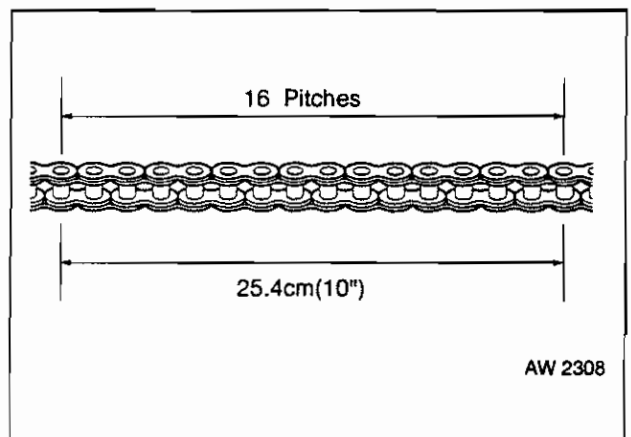

Fig 11.10 Chain Wear Measurement
- b. The length of 16 pitches of a new chain is 25.4 cm (10"). If the chain has stretched to more than 25.9 cm (10⁷/₃₂" for 16 pitches, it should be replaced. (Fig 11.10 refers).